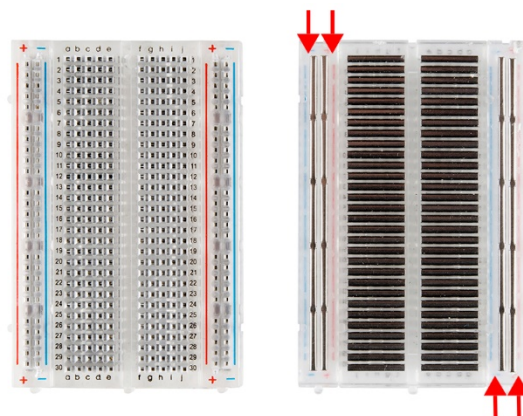

Figure 2. A breadboard and connections on it.
- **Breadboard:** Breadboard is an equipment to be utilized for creating temporary and prototyping circuits and experimenting with circuit design. It is also called as solderless breadboard, since it does not require soldering, it is reusable. Figure 2 indicates a breadboard and its connections. The power rails give you lots of easy access to power. Usually they are labeled with a '+' and a '-' and have a red and blue stripe, to indicate the positive and negative side. As seen in Figure 2 power rails are connected vertically while the others are connected horizontally.